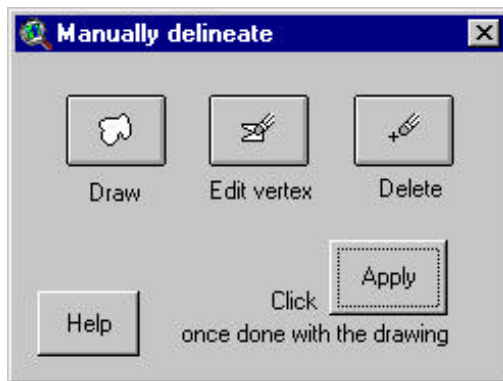

Figure 5.17
- b The second option, **Manually delineate**, allows the user to draw and edit a polygon mask using the manual delineation tool. (Figure 5.17)